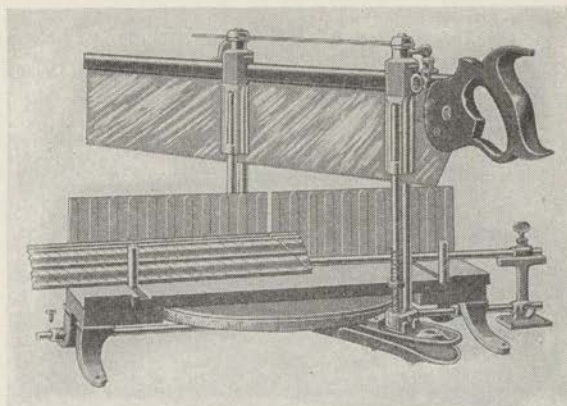

FIGURE 31.—Miter box.
(4) The backsaw has a rigid back which prevents the saw from bending. It is used freehand for accurate work, such as cutting out tenons, or in a miter box (fig. 31), for making accurate cuts at any angle.
(5) The size of a saw is the length of the blade in inches. Coarse teeth are used for softwood and fast work, and fine teeth for hardwood and smooth cuts. A rip saw having about $5\frac{1}{2}$ teeth or points per inch will work rapidly and easily in pine and other softwoods. A 6-point saw should be used for ripping mahogany, cherry, or other hardwoods. A crosscut saw for ordinary work should have 5 or 6 points to the inch; but 10 or 12 points are better when working exclusively on dry woods, either soft or hard.